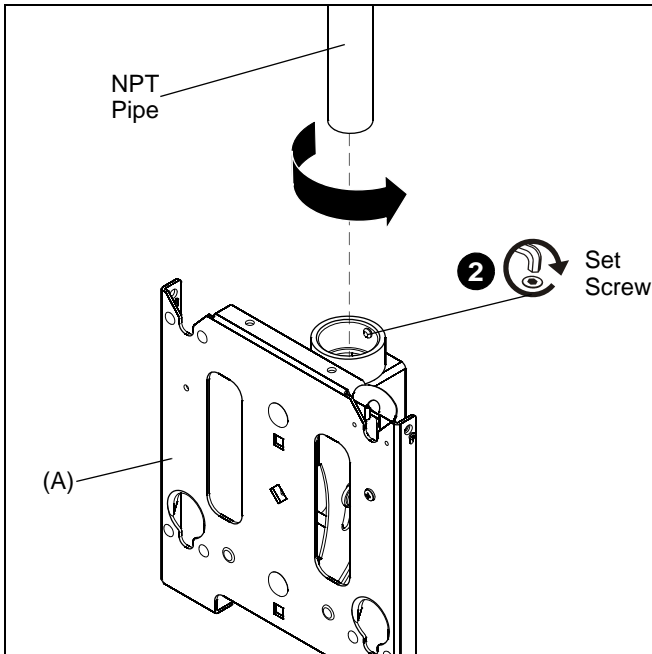

Figure 1
1. Thread the MCS (A) onto the existing 1-1/2" NPT pipe until tight. (See Figure 1)
2. Using the hex head wrench (B) tighten the set screw into the MCS threaded collar to prevent movement of the mount. (See Figure 1)